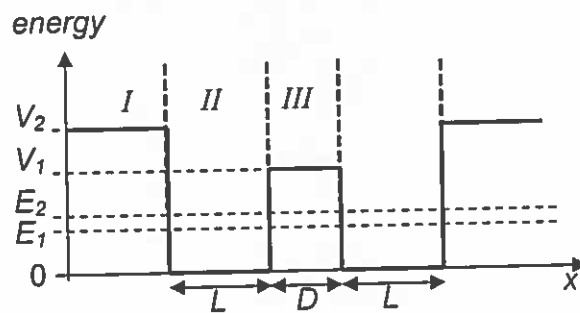

Figure 1.1
- b) Figure 1.1 shows a double potential well, where two potential wells of width L are separated by a potential barrier of width D and height V_1 . Here, the energy within the wells is zero and D is narrow enough such that the wave functions overlap.